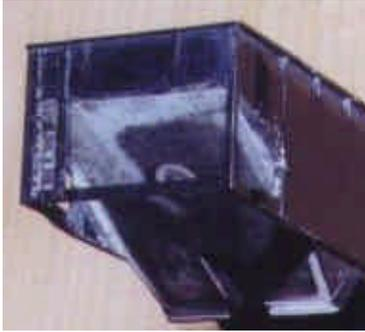

Figure 4. One end of the car prepared for detailing.
3. Get out your modeler's knife and several fresh blades. Remove the cast on grab irons, ladder rungs, the stirrup steps, and the end supports. Figure 4 shows one end of the car with all the Athearn details removed. Spare as many rivets as you can, along with your fingers.